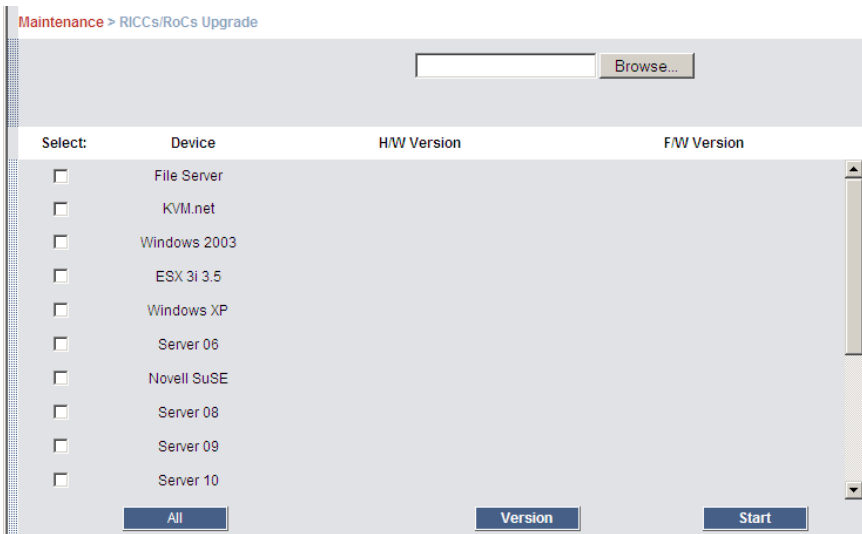

Figure 22 RICC/RoCs Upgrade
1. From the menu select **RICCs/RoCs Upgrade**. The **RICCs/RoCs Upgrade** window appears showing the current firmware version see Figure 22.